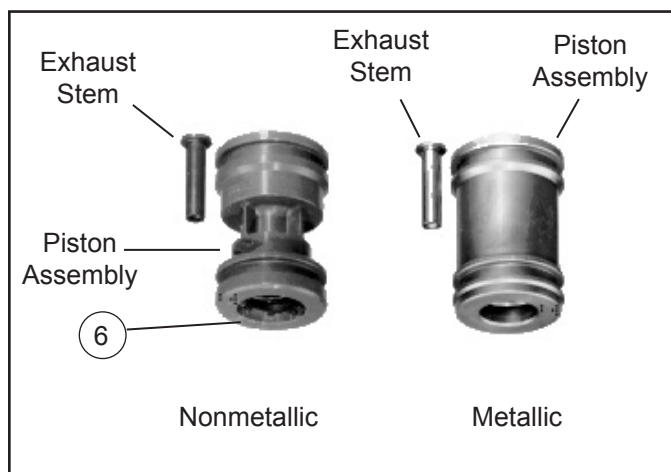

Figure 3 – Piston Comparison
7. Remove and discard the two o-rings on the piston outside diameter (O.D.) and with a hooked wire remove and discard the o-ring (5) from the piston inside diameter (I.D.). On a nonmetallic piston, the washer and retaining ring may be removed to facilitate removal of o-ring (5).
8. If the piston assembly is nonmetallic (see Figure 3), use a small screwdriver and carefully insert the blade between two of the ears of the retaining ring (6) in the bottom of the piston and pry the retaining ring (6) out of the piston and discard. Remove valve spring (3) and the inlet/exhaust valve (4) and discard.